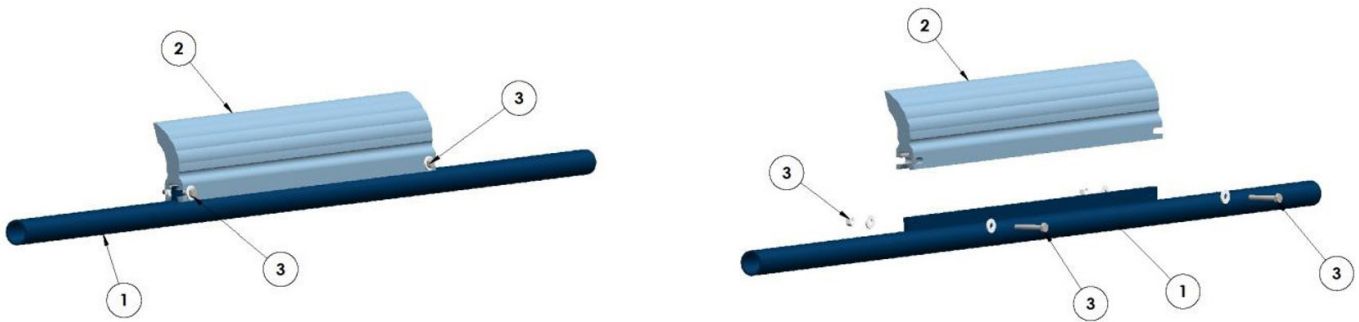

Figure 7: Pin and Blade Removal
1. Remove blades from pole/frame weldment as follows: (See Figure 7)
2. Slide pole weldment (Item #1) into chute wall holes and through the plastic bearing in each tensioner/ mounting bracket (Figure 2 and Figure 7)